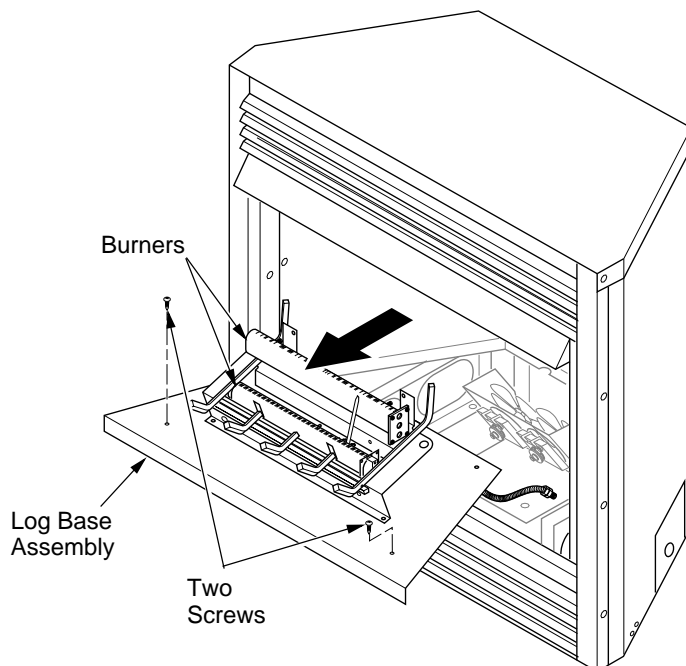

Figure 2 - Removing Log Base Assembly from Fireplace
- Remove logs. Remove two screws that attach log base assembly to fireplace. Carefully lift log base assembly and remove from fireplace (see Figure 2).
8. Put log base assembly back into fireplace. Secure log base assembly with the two screws removed in step 2 (see Figure 2, page 2).